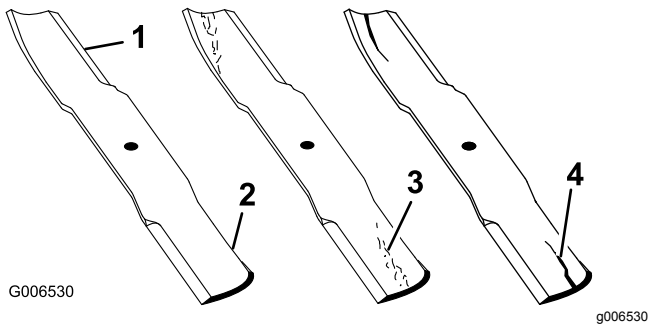

Figure 89
1. Inspect the cutting edges (Figure 89). If the edges are not sharp or have nicks, remove and sharpen the blades. Refer to Sharpening the Blades \(page 61\).
2. Inspect the blades, especially the curved area (Figure 89). If you notice any damage, wear, or a slot forming in this area (Figure 89), immediately install a new blade.